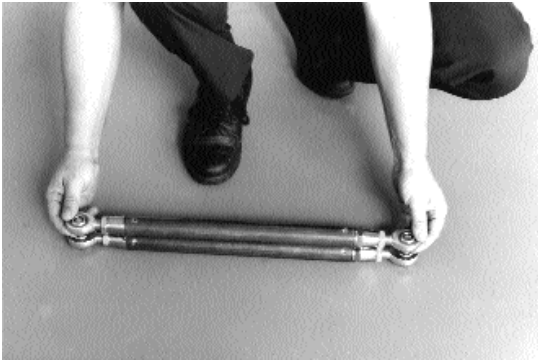

Figure 1
- 7...Set up one of the tubes so that the center to center measurement of the rod ends is 23 inches and are lined up with each other. Reset the jam nuts to lock the rod ends in place. Insert one bolt in each end. Set the remaining three 4-link tubes up so that they will all line up on the two bolts installed in the first tube. This insures that all four 4-link tubes are the same length. **See Figures 1 and 2.**